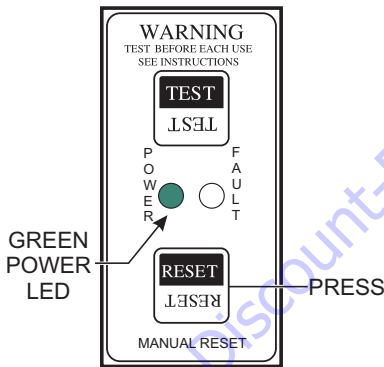

Figure 51. GFCI Module (Green LED ON Reset)
8. To restore power, press the RESET button (Figure 51) on the GFCI module and verify that the **red** FAULT LED turns **OFF** and the **green** POWER LED should turn **ON**